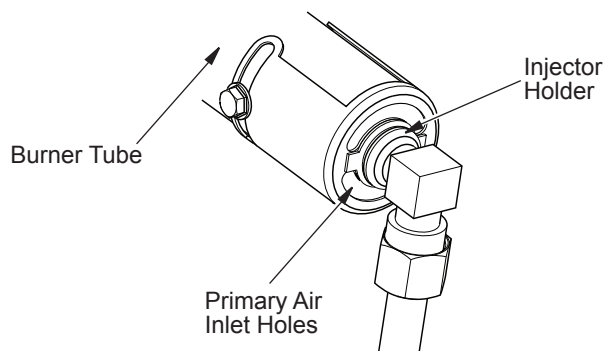

Figure 31 - Injector Holder On Outlet Burner Tube
2. Inspect burner, pilot and primary air inlet holes on injector holder for dust and dirt (see Figure 31, page 17).